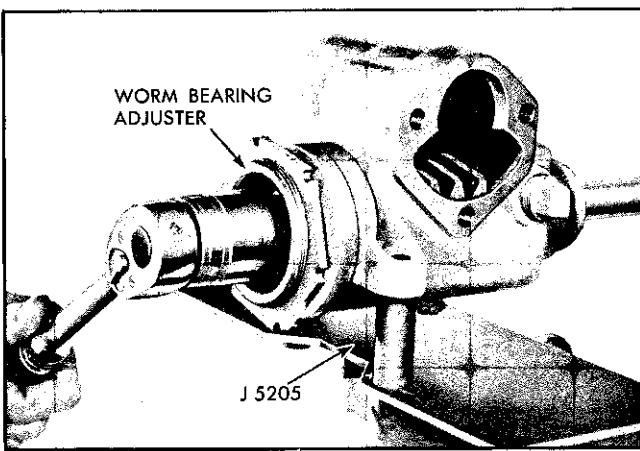

Fig. 9-44 Adjusting Worm Bearing Preload
- b. If torque does not meet above specifications loosen worm bearing adjuster lock nut (Fig. 9-44) and turn adjuster to bring torque within 7 in. lb. limits.